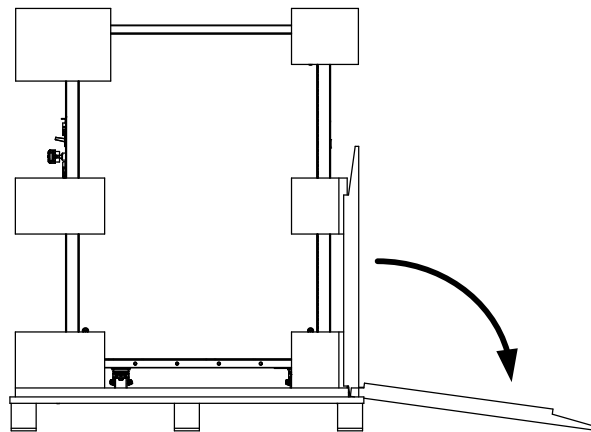

Figure 3-2 Place the ramp on the ground
(4) Place the ramp on the ground. as shown in Figure 3-2.